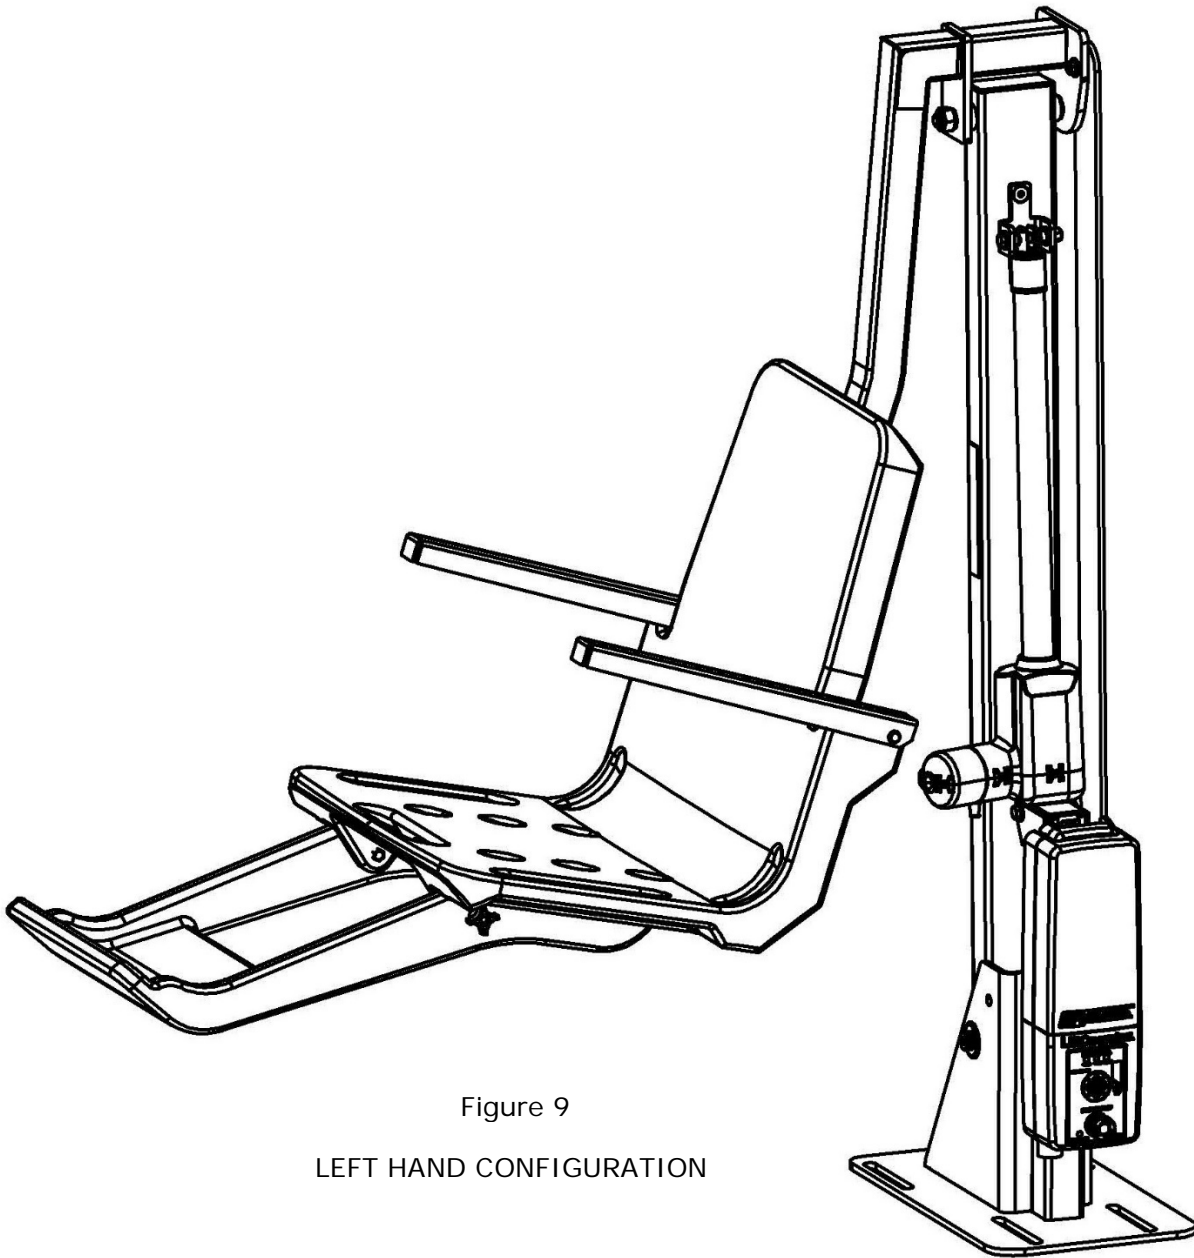
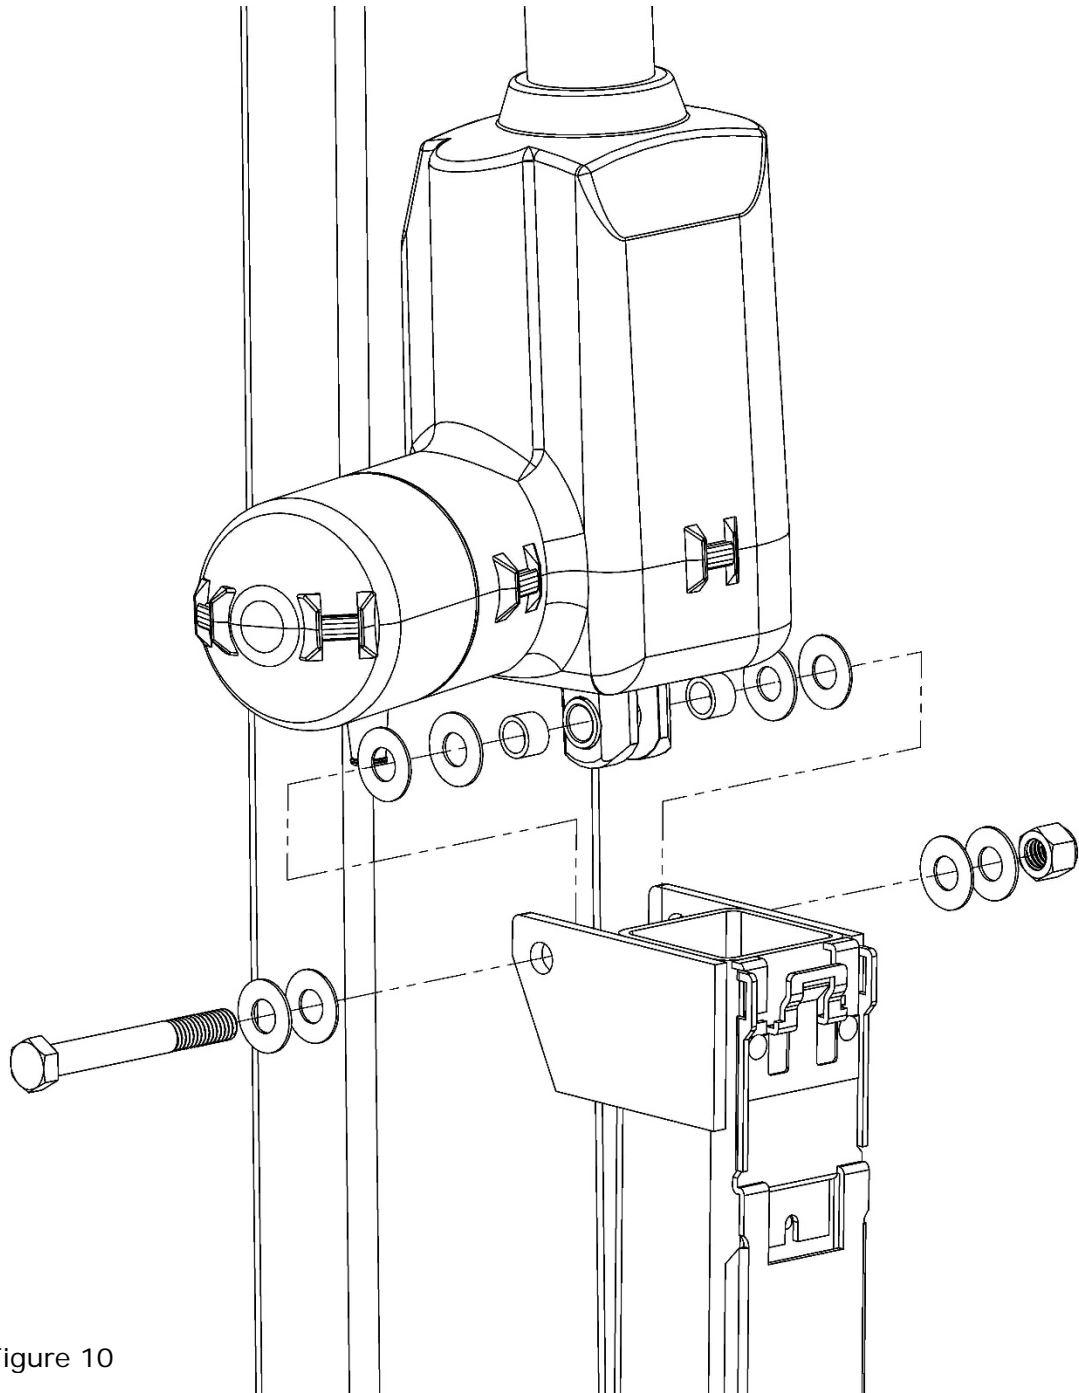

Figure 9
Figure 10
Caution: During assembly, ensure the lift actuator motor is positioned away from the seat leveling arm. Failure to install the seat leveling arm on the side of the lift opposite to the lift actuator motor will cause interference and damage to the lift components. Figure 9 shows the correct position for the actuator and seat leveling arm for a left seat mounting configuration. The main assembly for the multiLift2 is shipped with the actuator installed in the right seat mount configuration. When assembling the lift for a left seat mount configuration, the actuator must be detached from the base, rotated 180 degrees and reattached.
13. Remove the hardware connecting the actuator to the base. Rotate the actuator 180 degrees so that it is in the position shown in Figure 9 and reattach the actuator. Figure 10 shows the re-assembly sequence for bolt, washer, spacers, and nut.